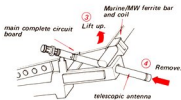

Fig. 2-18.
- ③ Lift up main circuit board as shown in Fig. 2-18 below.
- ④ Remove telescopic antenna as shown in Fig. 2-18 below.